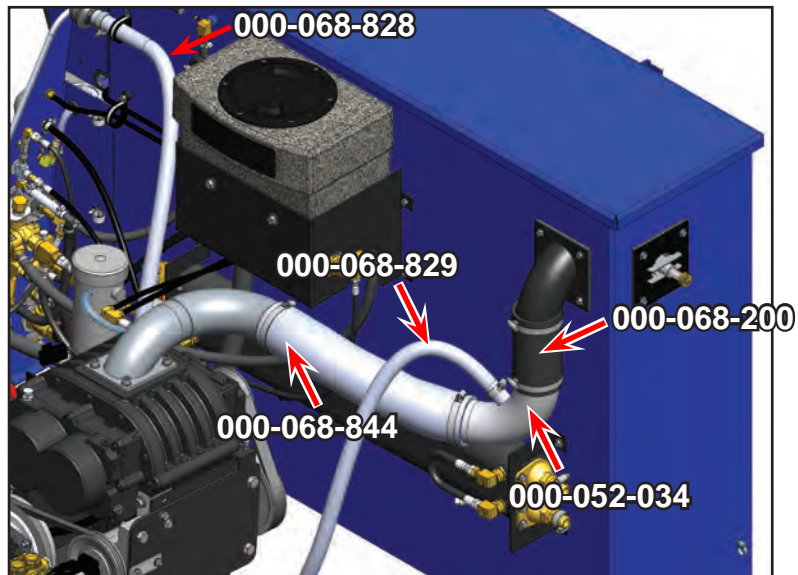

Figure 53. Connect Hoses and Elbow to/from Recovery Tank
1. Route and connect the 1" diameter hose (P/N 000-068-829) from the Yaw Sensor Cover to the Blower elbow (see Figure 53).
2. Connect these hoses and elbow as shown in Figure 53:
3. Route the longer 1" diameter hose (P/N 000-068-828) from the Yaw Sensor Cover toward the CDS instrument panel (see Figure 53).